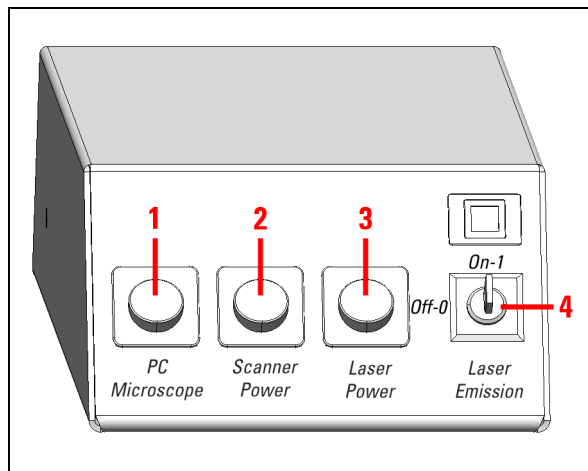

Figure 57: Overview of the main switch board on the flexible supply unit
5. Switch on the workstation and the microscope on the main switch board of the flexible supply unit (see **Figure 57, item 1**). You do not have to start the operating system—it starts automatically when you switch on the workstation. Wait until the startup process has concluded.
9. Switch on the scan head on the flexible supply unit's main switch board (see **Figure 57, item 2**).
10. Switch on the lasers on the main switch board of the flexible supply unit (see **Figure 57, item 3**).
13. To switch on the laser in the supply unit, activate the key switch on the main switch board of the flexible supply unit (see **Figure 57, item 4**).